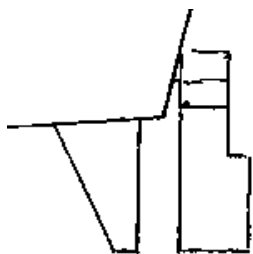

figure 1
- 1) Rudders mounted wrong way round (see figs. 1 & 2)
Fig1 shows how the rudders were factory fitted. I heard complaints from other 900 owners about excessive turbulence & vibration in the vicinity of the rudders when under way. The reason became apparent when the boat was lifted. The position of the rudders as fitted at the factory meant that the gap between the trailing edge of the skeg and the leading edge of the rudder was too wide, creating excessive vibration & turbulence.